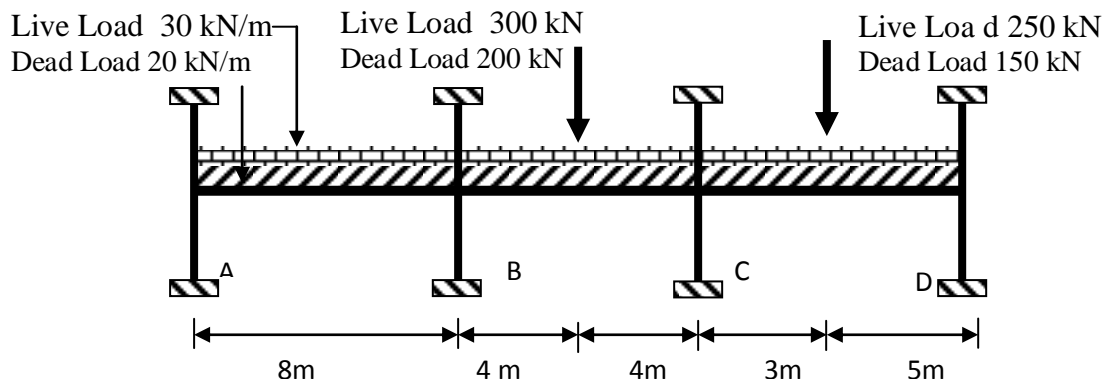

Figure 7
- (c). Figure 7 shows a continuous beam forming part of a rigid frame. Determine the maximum moment at each support and the maximum mid-span moments using two-cycle moment distribution method.